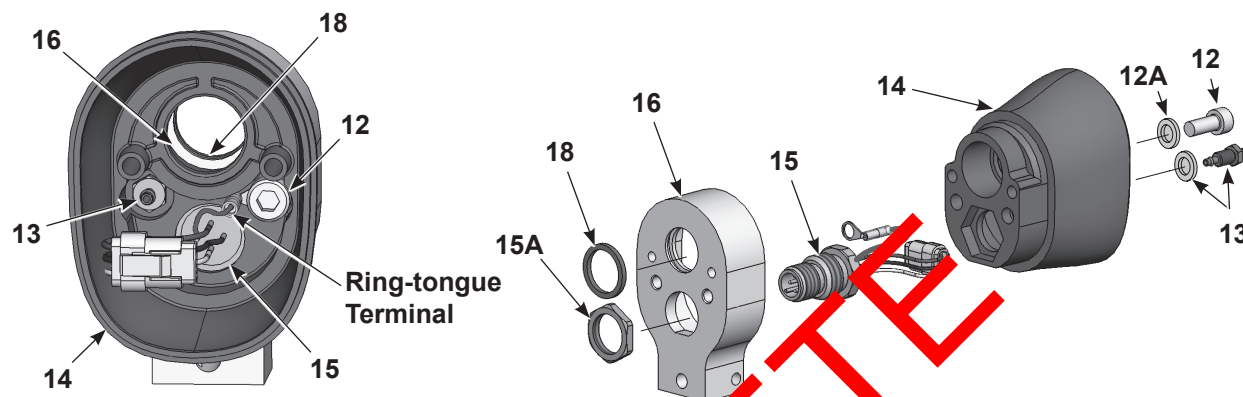

Figure 24 Bar-Mount Gun Disassembly 3 of 3
8. See Figure 24. To disassemble in the rear body assembly, remove the screw (12), lock washer (12A), and barbed fitting and lock washer (13) from inside the rear body (14). A 3-mm hex key and 1/4-in. deep-well socket are required.
9. Remove the nut (15A) from the receptacle (15), pull the adapter off the rear gun body, and feed the receptacle harness through the body.
10. Inspect the quad ring (18) in the adapter (16) and replace it if damaged.